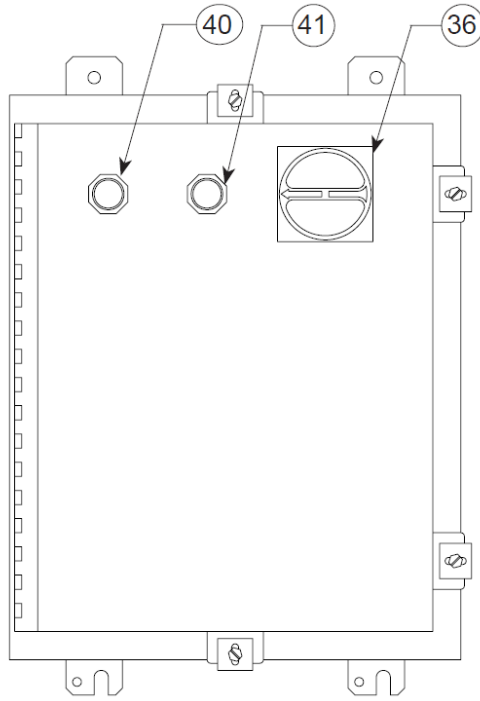

FIG. 18
7. Wire the Photohelic Gauge as the electrical diagram shows in FIG. 18 (See PAGE 22) using the ¾" conduit opening on the Photohelic (Wire and conduit supplied by others).